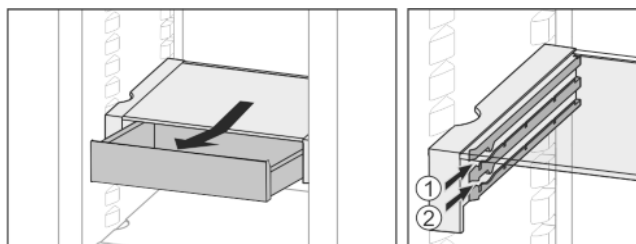

Fig. 21
- Slide in at any height Fig. 21 (1) or Fig. 21 (2).